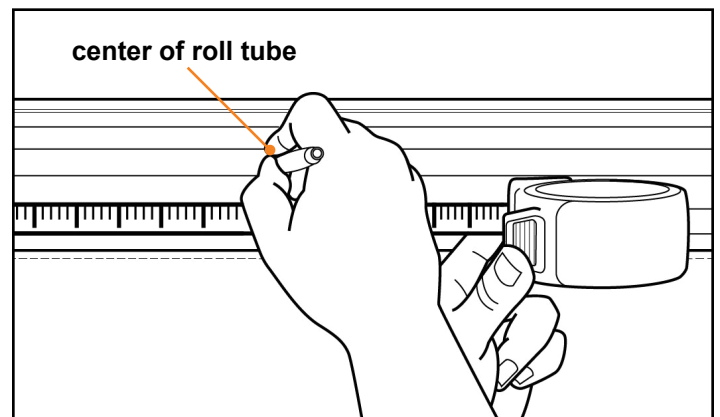

Fig.37
2. Find the center of the roll tube and mark its location (Fig.37).